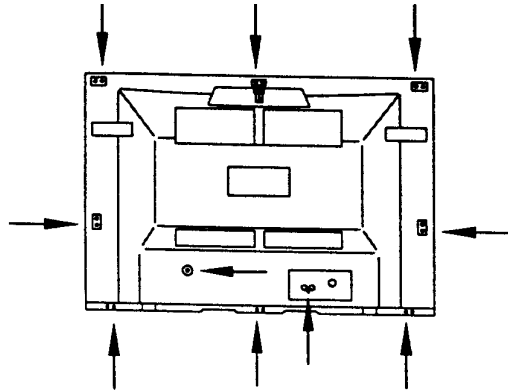

Fig. 1
2. Remove 10 screws as the fig. 1 shown.